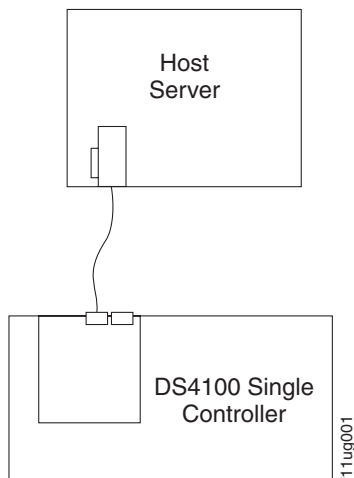

Figure 29. Example of a single server configuration with one adapter (single-controller storage server)
- Single server configuration with one adapter, as shown in Figure 29